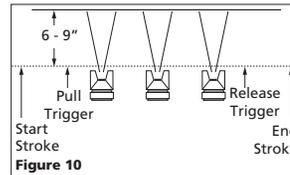

Figure 10
- "Trigger" the gun properly. Start the gun moving at the beginning of the stroke BEFORE SQUEEZING THE TRIGGER and release the trigger BEFORE STOPPING GUN MOVEMENT at the end of the stroke. This procedure will "feather" (blend) each stroke with the next without showing overlap or unevenness (See Figure 10).